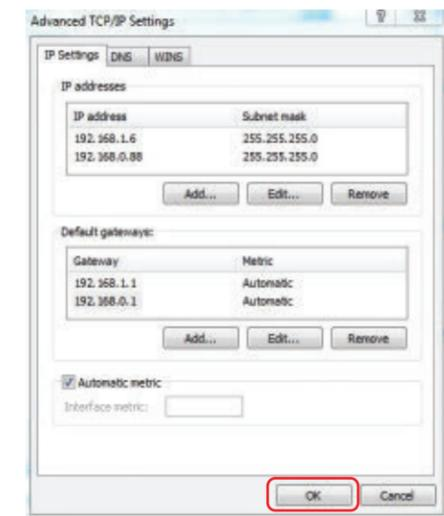

Fig. 6.12
- (6) Return to “Advanced TCP/IP settings” and click OK (See Fig. 6.12).